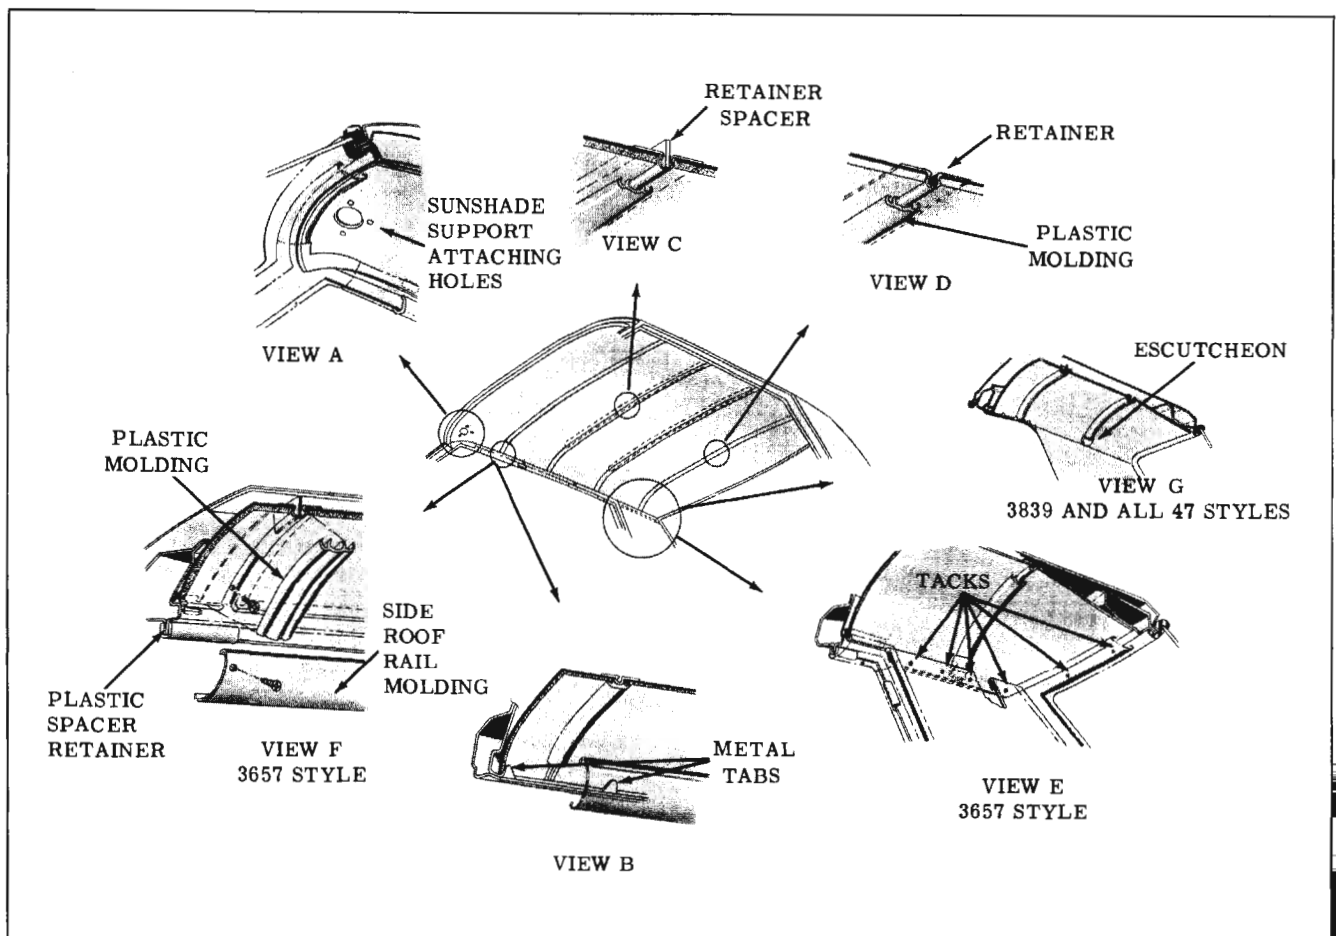

Fig. 16-76 Poly-Foam Headlining Installation
3. With flat-bladed tool, carefully pry one end of plastic molding from retainer and remove. (View "F", Fig. 16-76) Remove plastic moldings from both retainers securing section of headlining being removed.
4. On "39" and "47" styles, carefully bend down metal tabs securing headlining section to side roof rails. (View "B", Fig. 16-76) On "57" styles, headlining is secured at side roof rails by side roof rail moldings. (View "F", Fig. 16-76)
7. When retainers are required to be removed, remove screws securing retainer to side roof rail. (View "F", Fig. 16-76) Retainer spacers are installed in the No. 2 and No. 3 retainers on "57" styles and in the No. 1 retainer on "39" and "47" styles. (View "C", Fig. 16-76)
1. If retainers were removed, make certain that retainer spacer shown in View "C" of Figure 16-76 is installed prior to installing retainers.
molding, install escutcheons on ends prior to installation. (View "G", Fig. 16-76)
3. If installing rear section of headlining assembly, position forward edge of section in retainer. Center and align section in relation to side roof rails and back window opening and stay tack section in place. Recheck alignment; then starting at center of back window area, permanently tack section to tacking strips at back window opening. (View "E", Fig. 16-76)
4. If installing front section of headlining assembly, position appropriate edge in retainer. Center headlining section in relation to other sections, side roof rails, and sunshade support attaching holes. (View "A", Fig. 16-76) Install sunshade supports. Where present, bend up tabs on side roof rails to retain headlining section.